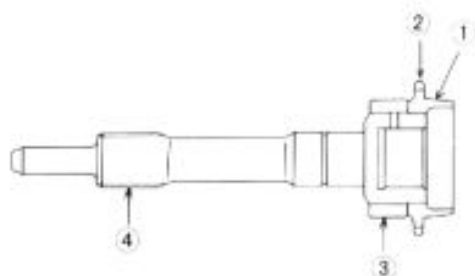

Fig. 13-19
Referring to Fig. 13-19, inspect the cone ① and toothed ring ② for wear and damage.